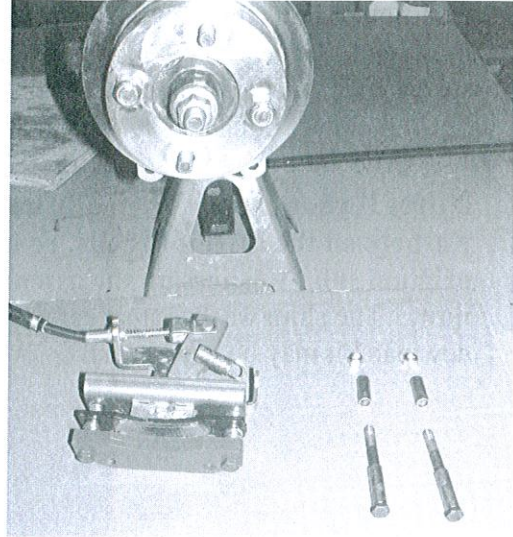

Fig R3 – Remove caliper.
3. Remove the two inner caliper bolts to remove the caliper. Keep track of the spacers. (See Fig R3)